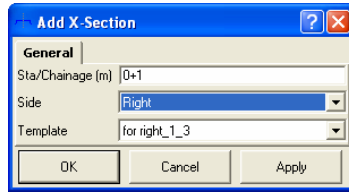

Figure 9-73. Add X-Section
2. In the *General* tab of the *Add X-Section* dialog box, set the following parameters (Figure 9-73):
3. Click the **Calc** button on the *Inverse* window. See Figure 9-73 on page 9-54. The *Inverse* tab is created (Figure 9-85).